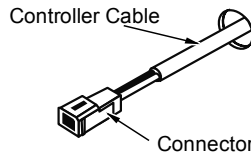

Fig. 2
3. When running cable through the access hole ensure the connector end of the cable is located nearest to the controller (Fig.2).